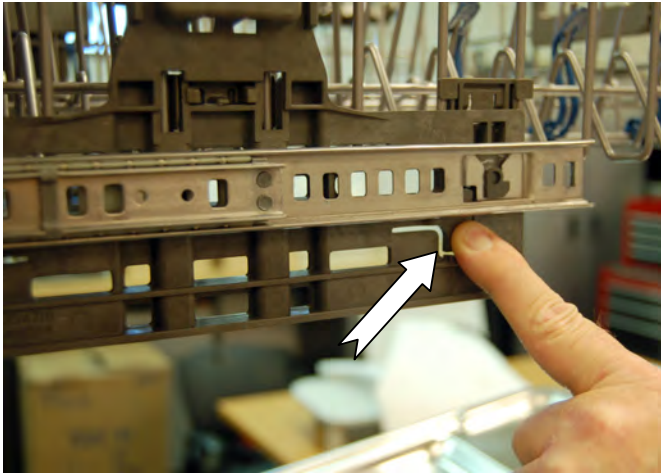

Figure 1
2. On one side, press the tab on the track in and pull up the front end of the rack out of the track. See Figures 1 & 2.